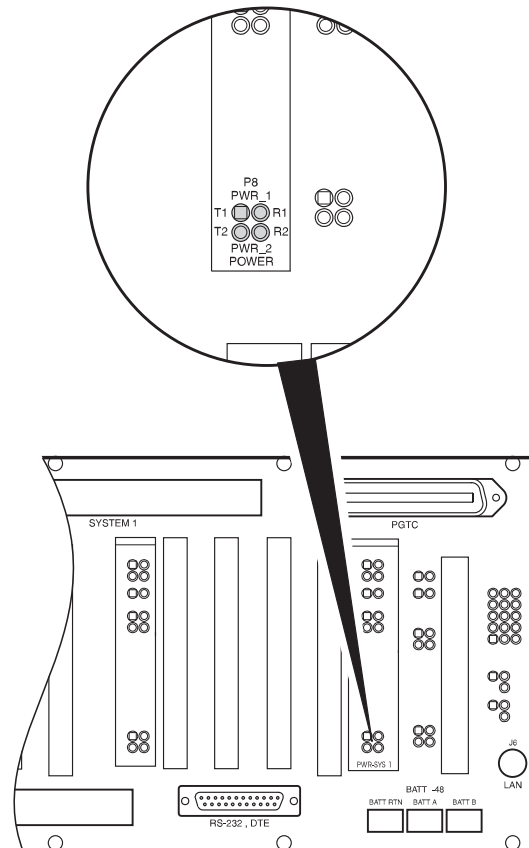

Figure 10. Installing the Auxiliary Power Pairs
8.8 Auxiliary Power Pairs. When PG-Flex is used with a doubler, wire the auxiliary power pairs to the COT shelf (Figure 10) as follows: